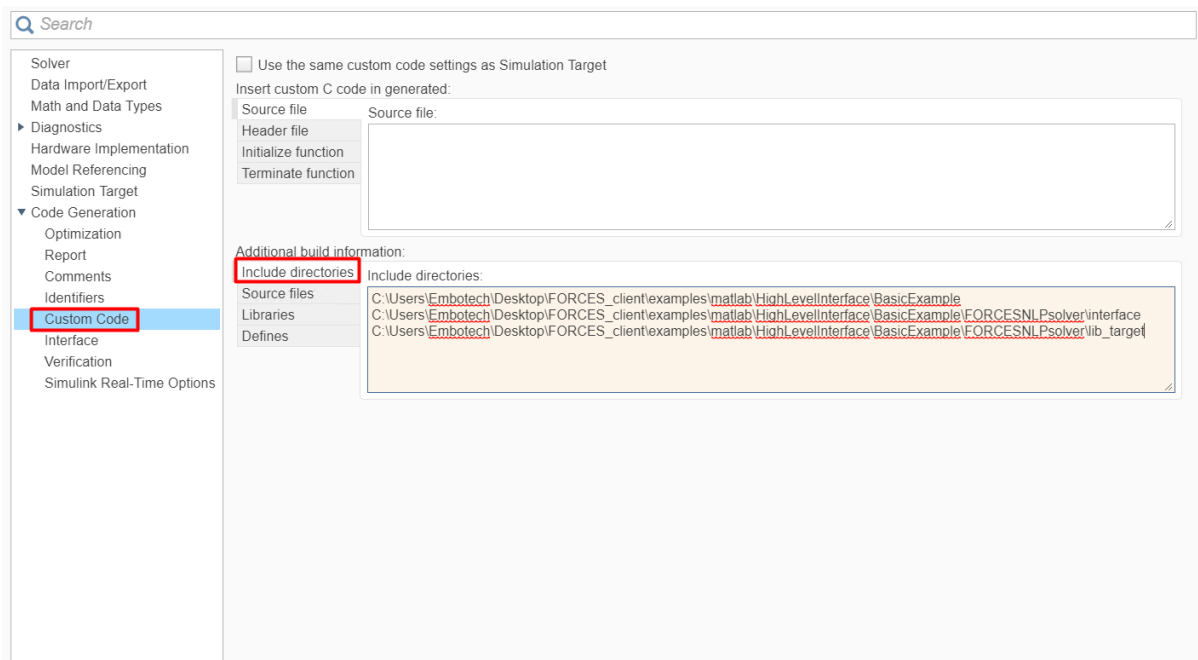

Figure 13.96: Add the directories included for the code generation.
10. (Figure 13.96) In the “Code Generation/Custom Code” tab, include the directories: